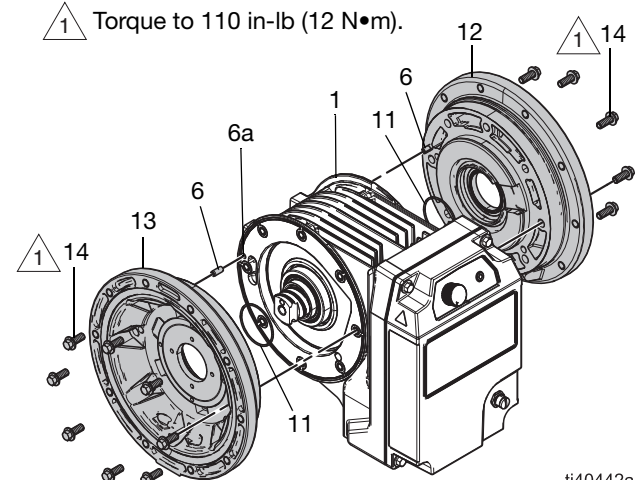

FIG. 18: Center Section, Load-side
4. Install the seal (47) on the hub (8).
5. Assemble the other seal (11) to the hub (8).
6. Install the preload nut and hub (9, 8) on the load-side cap (13):
- a. Apply anti-sieze to the threads of the hub (8).
- b. Thread the preload hub (8) onto the load-side stator cap (13). Ensure the lips of the preload hub (8) face toward the center of the rotor (7).
- c. Spin the hub (8) until the seal (47) touches the bore of the cap (13).
- d. Install the load-side stator cap (13) onto the stator housing (1). First, install the seal (11) in the stator cap (13). See FIG. 18.
- e. Align the pin (6) in the stator cap (13) with the pin hole (6a) on the stator housing (1) and gently insert the stator cap (13). Ensure the stator cap is properly set in place. See FIG. 18.
- f. Install the fasteners (14) into the stator cap (13). Torque to 110 in-lb (12N•m). See **Torque Instructions**, page 15.
- g. Insert the preload hub installation tool into the preload hub (8).
- h. Use an applicable wrench on the preload hub installation tool to torque the preload hub (8) to 20 ft-lb (27 N•m).